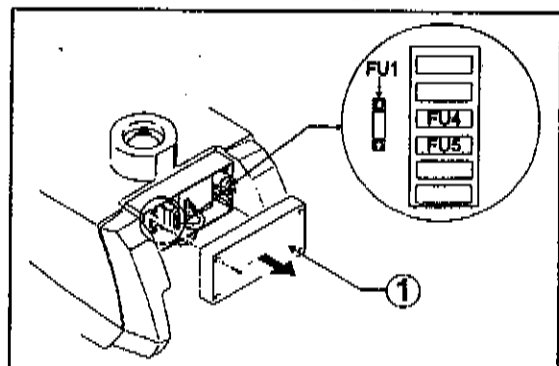

Fig. 18
- remove the cover of the electrical box (fig. 18, ref. 1);